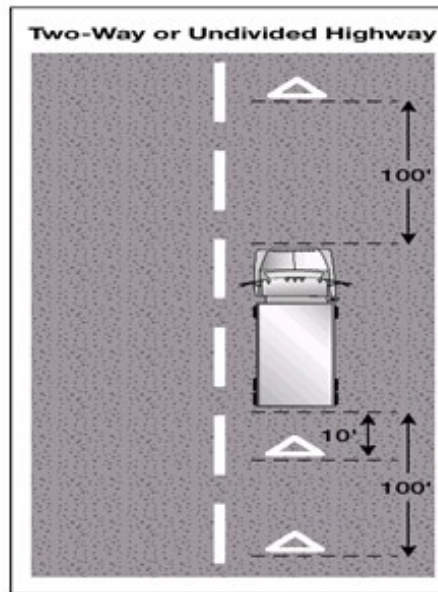

Figure 2.9
- If you stop on a two-lane road carrying traffic in both directions or on an undivided highway, place warning devices within 10 feet of the front or rear corners to mark the location of the vehicle and 100 feet behind and ahead of the vehicle, on the shoulder or in the lane you stopped in. See Figure 2.9